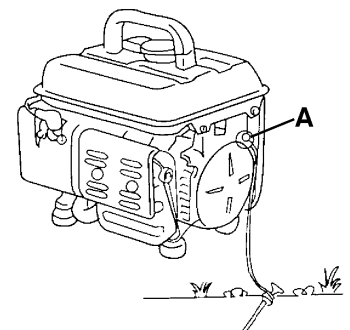

Figure 3
- Be sure to ground (earth) the generator. See Fig.3.
Before operating make sure to ground the generator. A hex. bolt (A) Fig.3 next to the ground symbol can be found on the left side of the generator, attach a wire and ground it as shown in Fig.3. Your local electrical company or certified electrician should be able to help you with this information. Note: Your engine is already grounded to the frame with a ground wire.